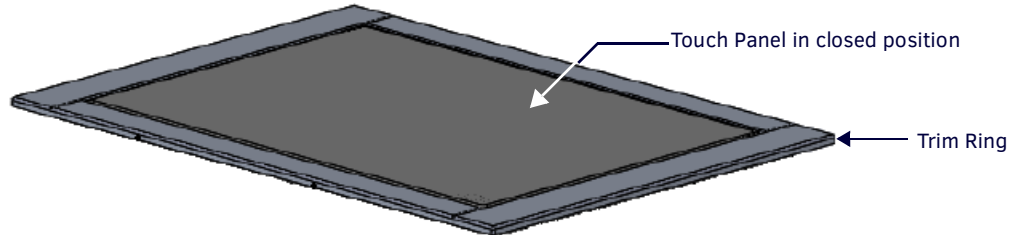

FIG. 9 HPX Touch Installed in the mounting Surface cutout
2. Slide the HPX-MSP-7/10 into the cutout. Make sure that the top of the unit is level and nearly flush with the top of the mounting surface (FIG. 9):